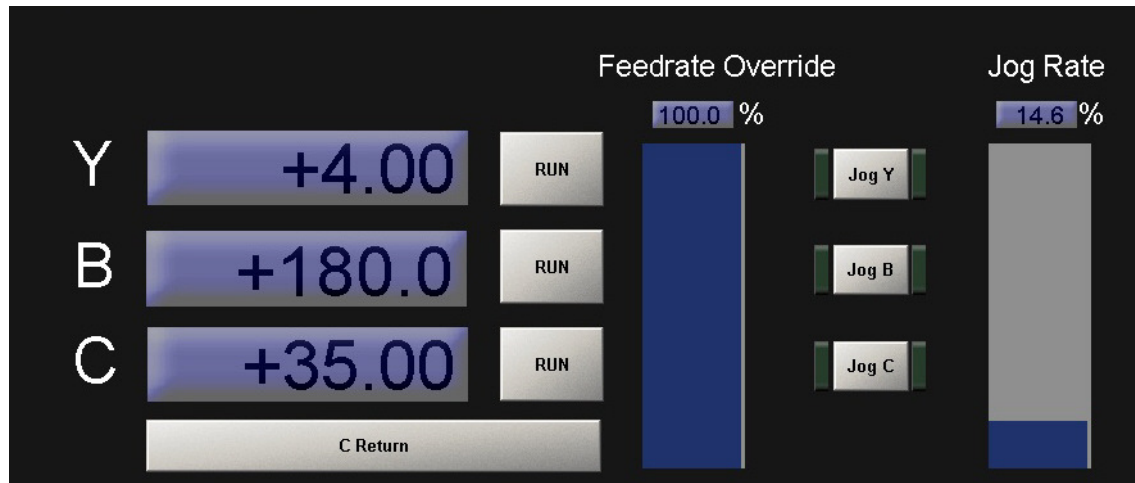

Figure 7 Input Fields
The carriage, or Y axis, can be moved forward or backwards. All moves are incremental, meaning that the carriage moves however far you command it to move *from the current position*. The first input field on the left of the screen labeled “Y” is the + or - distance for the carriage to move along the linear rail (Y) (Figure 7).